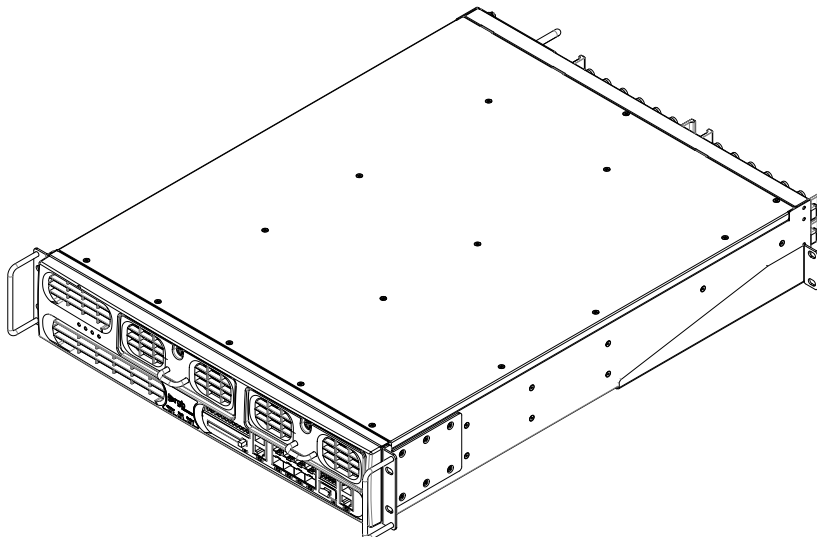

Figure 17. Front brackets attached
1. Using the provided screws, attach the front rack mount bracket to one side of the chassis as shown in Figure 17.